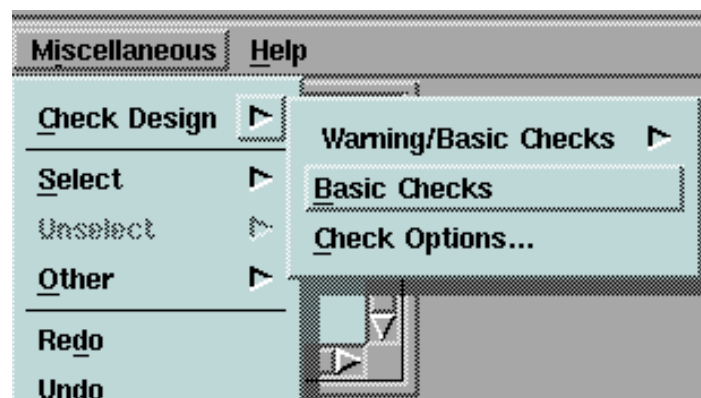

Figure 3-19. Miscellaneous > Check Design Menu
1. Choose the **Miscellaneous > Check Design > Basic Checks** pulldown menu item, shown in Figure 3-19.